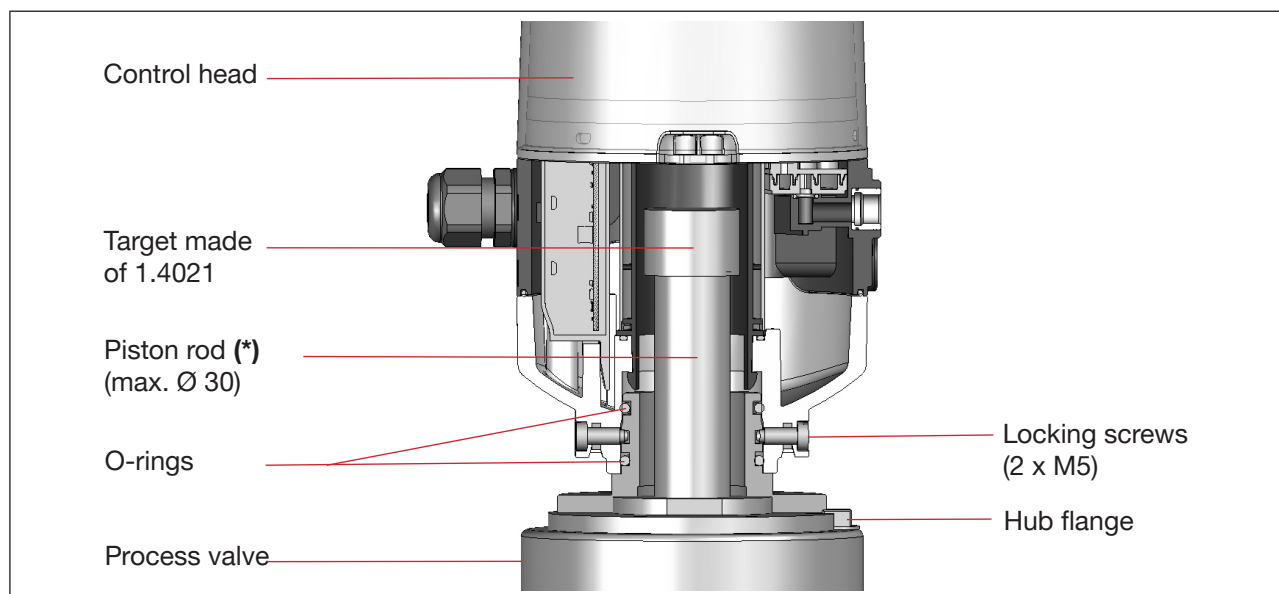

Fig. 10: Schematic diagram of the control head - process valve adaptation
- Fasten the hub flange on the process valve - see “Fig. 10”.
- Secure control head with the two locking screws (shoulder screws M5) in the middle groove of the hub flange to prevent it from being pulled off the hub flange – tightening torque: max. 3.2 Nm (see “Fig. 10” and “7.2.3 Realignment of the control head”).
- Loosen the locking screws (shoulder screws M5 – see “Fig. 10”) slightly until the underside of the screw head is flush with the auxiliary surface of the housing.